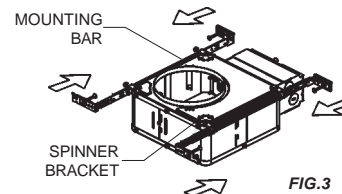

FIG.3
3. Replace mounting bars by reinserting them through spinner bracket and reattaching one to another, compressing them past lock point. (Fig.3)